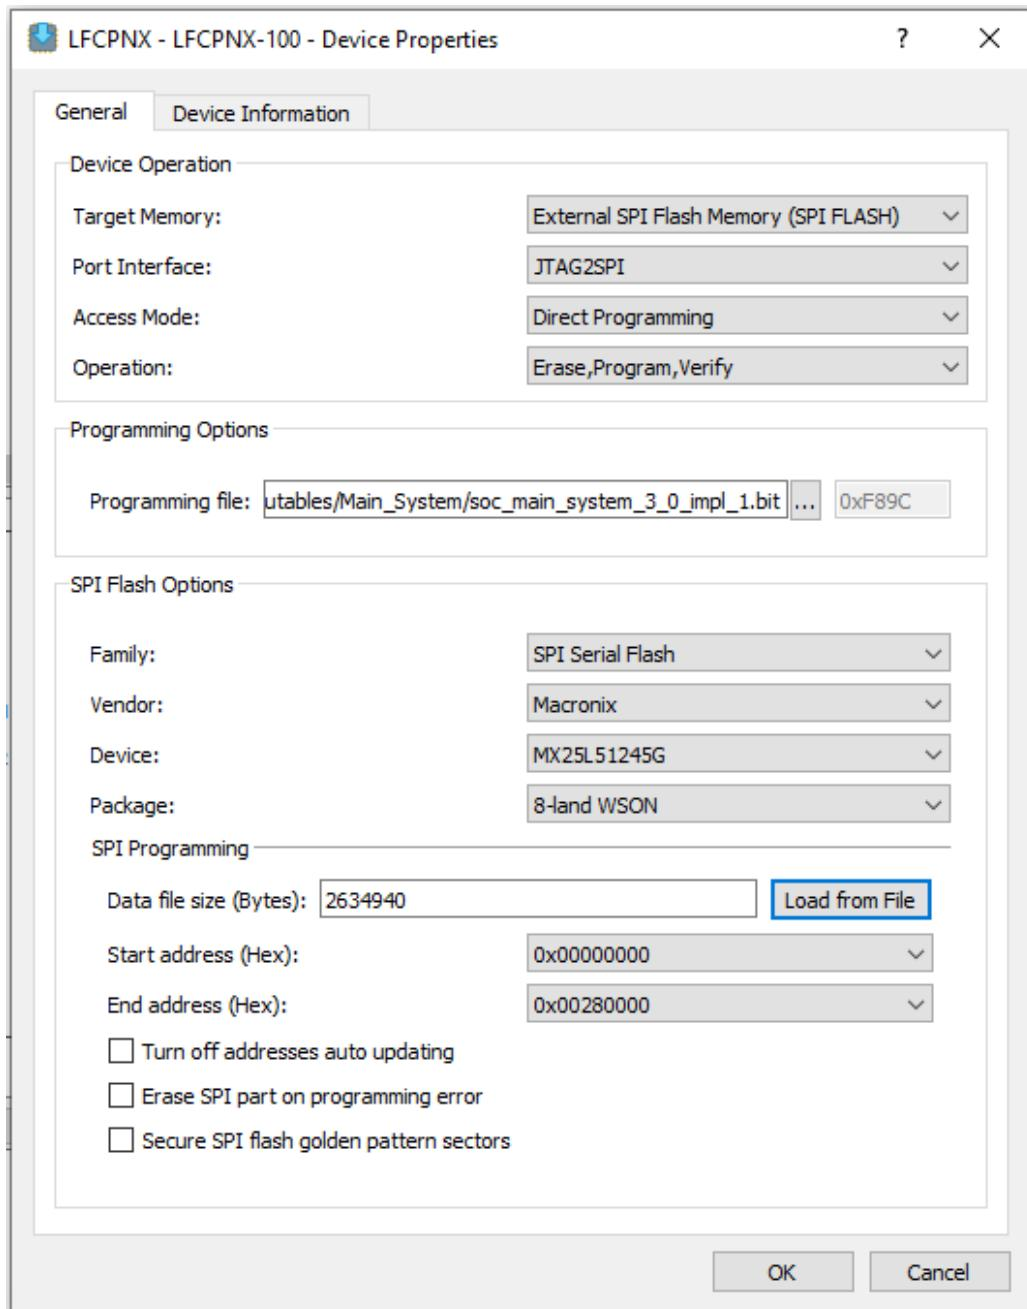

Figure B.7. RADIANT PROGRAMMER - Bitstream Flashing Settings (Main System)
9. To program the **bitstream file**, select the options as shown in Figure B.7.